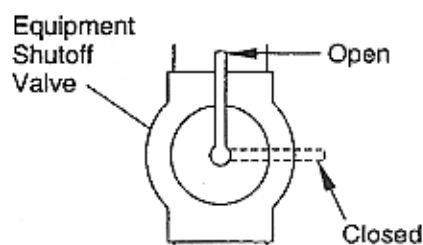

Figure 15- Equipment Shutoff Valve
1. Close equipment shutoff valve (see Figure 15).
1. Open equipment shutoff valve (see Figure 15).